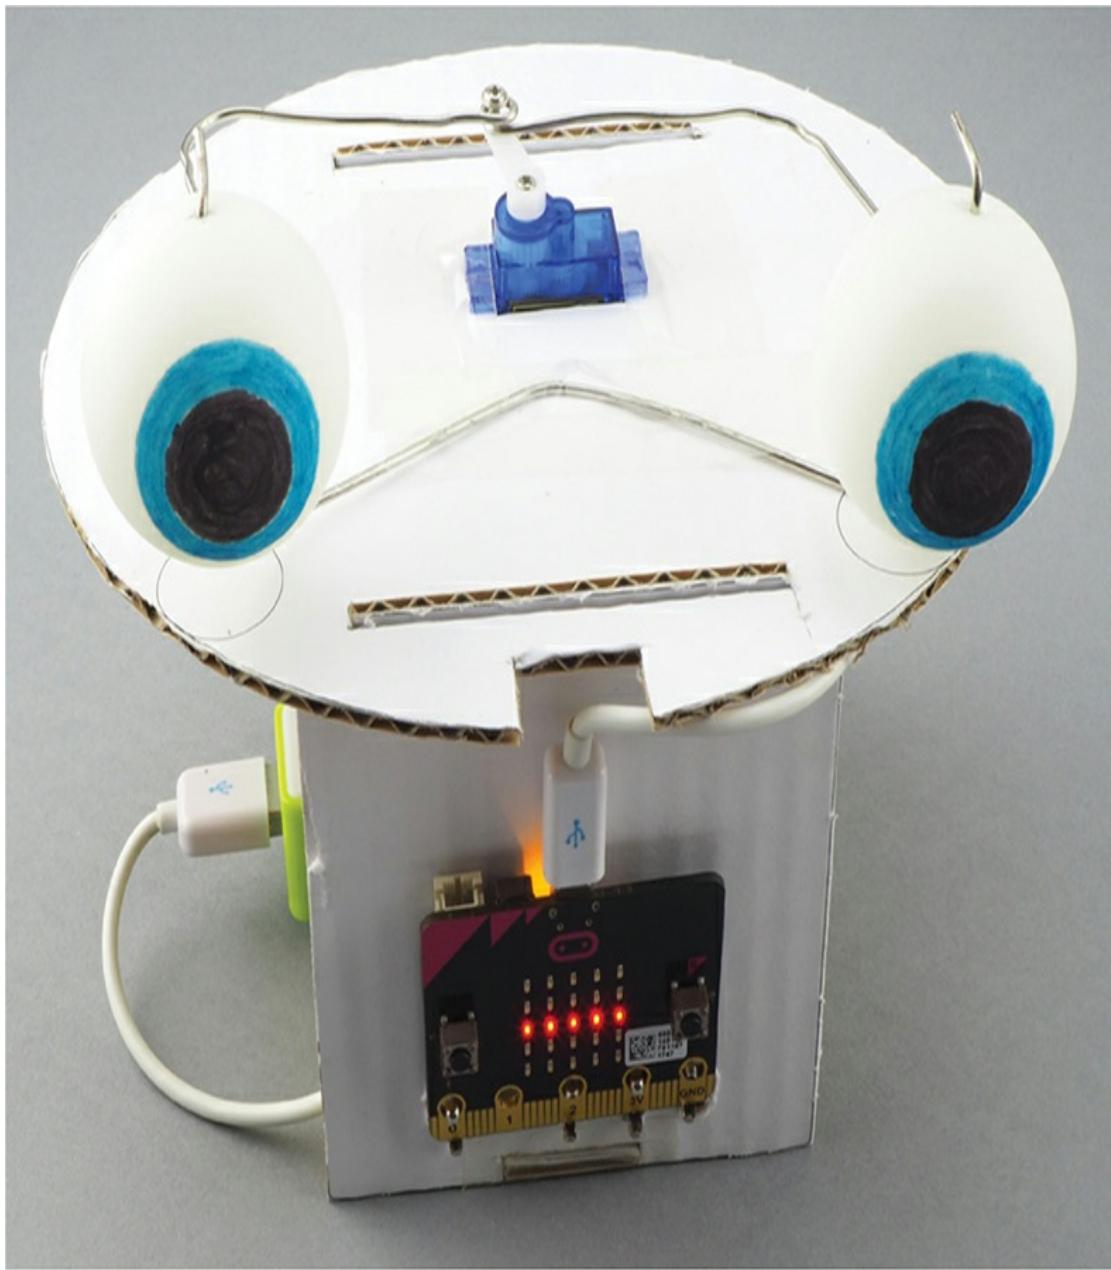

Figure 6-5: The animatronic head
But, referring to Figure 6-5 again, we need to convert the pulse length in milliseconds to a duty value between 0 and 1023 because the set_servo_angle function expects a value in that range.
This animatronic head, shown in Figure 6-5, makes a great project for a Halloween display. A servomotor moves a pair of ping-pong ball eyes from left to right, and it uses the micro:bit's display as a mouth. When the head talks, the lights simulate a simple animation of lips moving.
15. With everything connected together, attach the top piece of cardboard to the rest of the chassis. The two circles marking the position of the eyes on the top piece should face the micro:bit end of the chassis (refer to Figure 6-5).